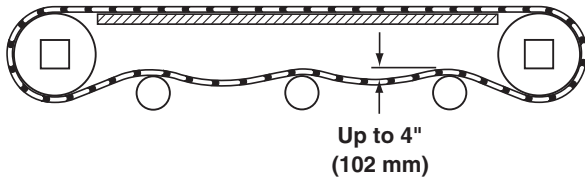

Figure 37
4. Check belt sag by measuring from the top of the return (Figure 37). Belt sag should not exceed 4" (102 mm). Follow steps 7 – 9 in the “Belt Installation” section on page 12 to remove slack from the belt.